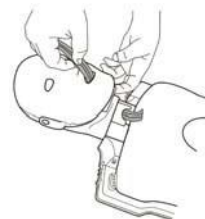

Figure 6
6. Push the Lung-Bag into the mouth until the bag exits through the neck of the manikin (Figure 6).